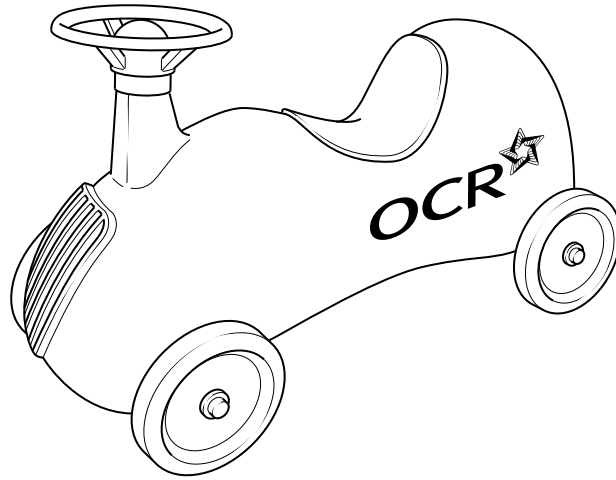
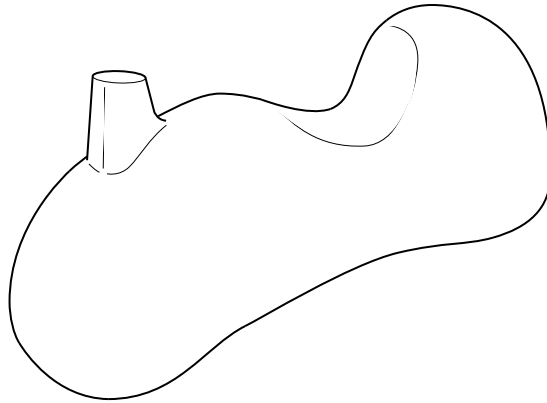

Fig. 6
Fig. 7
Fig. 6 shows a plastic ride-on toy for a small child.
(a) Give **four** justified design requirements for a plastic ride-on toy of the type shown in Fig. 6.
(e) Fig. 7 shows the hollow body shell of the plastic ride-on toy shown in Fig. 6.
- (i) State a **suitable specific plastic** for the hollow body shell shown in Fig. 7. Give **two** properties or characteristics that make the material suitable for this use.
- (ii) Describe in detail how the hollow plastic body shell shown in Fig. 7 would be manufactured in one piece as a **batch of 1,000**.